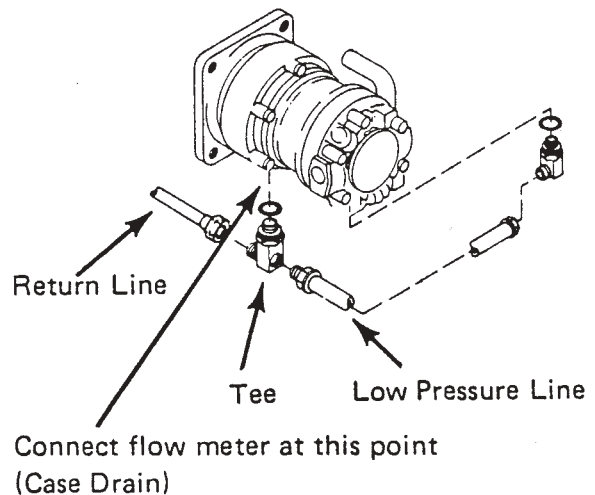

Figure 31. Checking Hydraulic Motor Case Drain Rate
1. Disconnect low pressure line at motor tee (see Figure 31.). Disconnect return line from tee and remove tee from motor.
2. Connect flow meter to motor as indicated in Figure 31., or direct flow from tee port into a container of known volume for a measured amount of time to determine the flow rate in gallons per minute (GPM). If the flow rate is above the maximum allowed, the pump is worn internally and should be replaced or repaired before proceeding.